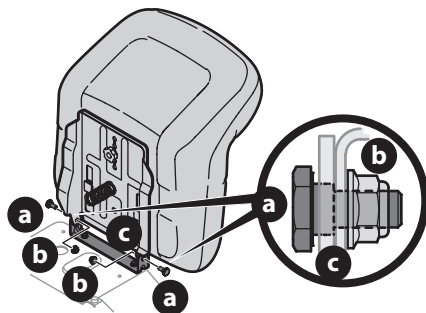

Figure 10
6. Install the two shoulder bolts (a) and lock nuts (b) removed from the seat mounting bracket (c) in Step 1 (Figure 10).